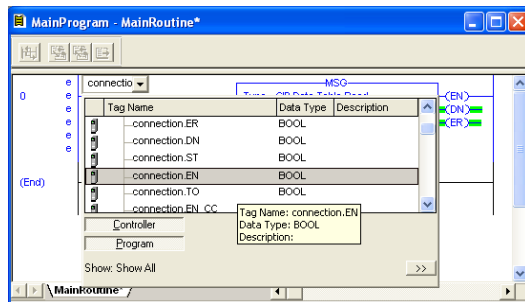

Figure 62: Configure XIO Element
- a) Double-click on the XIO element located to the left of the MSG block. In the drop-down box, double-click on the “connection.EN” field. Refer to Figure 62. This configuration causes the MSG instruction to automatically retrigger itself when it completes. While this is acceptable for the purposes of this example, it can produce high network utilization. In actual practice, it may be desirable to incorporate additional logic